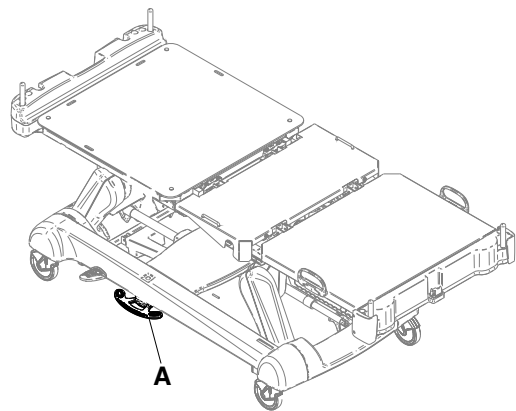

Figure 6 – Flipped manual brake pedal
1. Flip down the brake pedal (A) (Figure 6).